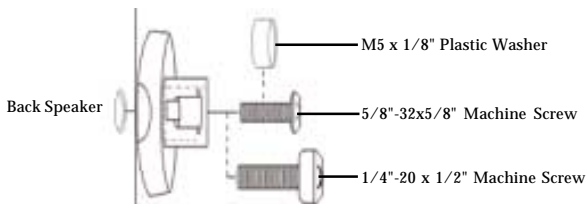

Figure 3
4. Check the size of the hole, make sure you have the 5/8"-32 x 5/8" machine screw, the 1/4"-20 x 1/2" machine screw, the M6 x 20mm, or the M5 x 20mm fits inside, see **Figure 3** below.